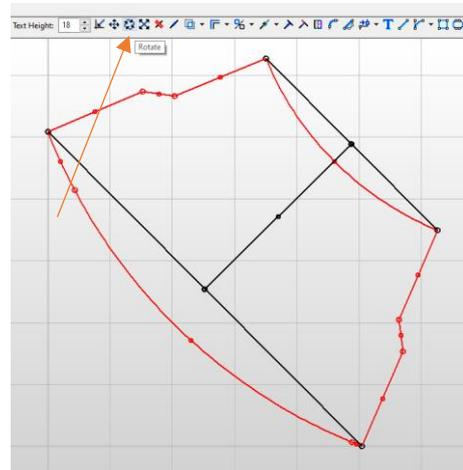

Figure 36
4. **ROTATE:** To rotate the geometry click  **Rotate** on the *Main Toolbar* (Figure 36) or click **-R-** to activate the rotation tool by using the *Command Prompt* and press **-SPACE-** or **-ENTER-** to confirm the suggestion in the *Command Prompt* (in this case **ROTATE**).